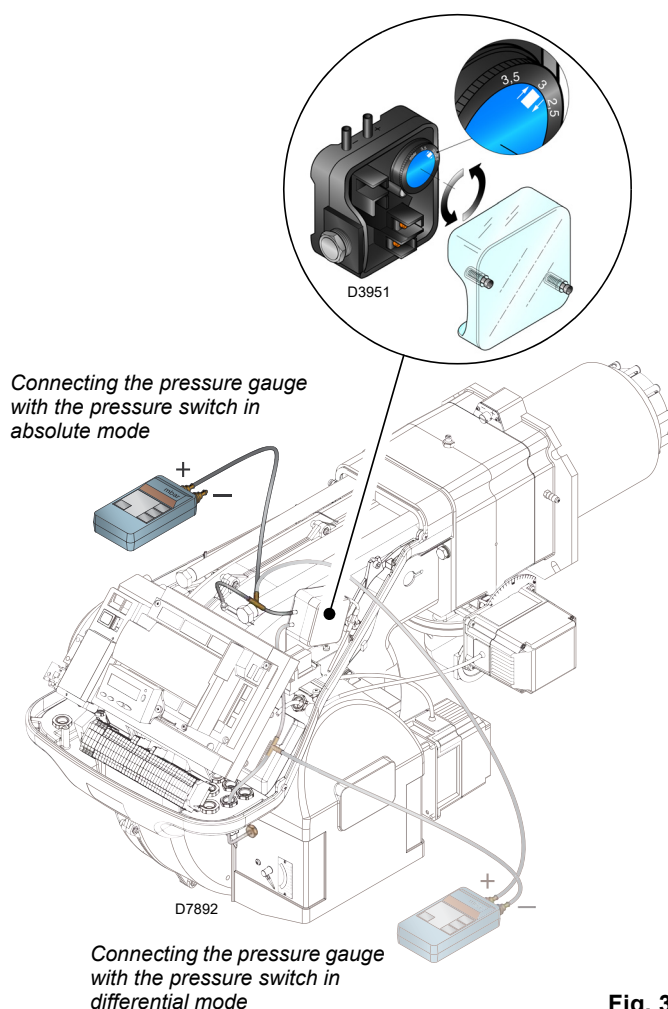

Fig. 31
- Adjust the air pressure switch (Fig. 31 at page 31) to the start of the scale.
Adjust the air pressure switch (Fig. 31) after having performed all other burner adjustments with the air pressure switch set to the start of the scale.
The connection of the pressure gauge is shown in Fig. 31. The standard configuration is that with the air pressure switch connected in absolute mode. Note the presence of a "T" connection, not supplied.
In this case also, the pressure gauge must be connected in differential mode, as shown in Fig. 31.